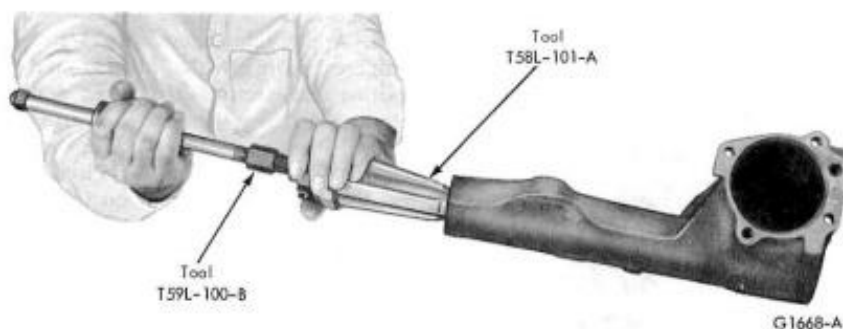

FIG. 20—Removing Upper and Lower Seals
2. Remove the lower seal from the housing as shown in Fig. 20. Lift the spacer washer from the housing.